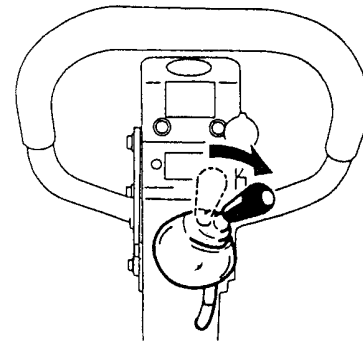

Figure 11. Throttle Lever (Stop)
2. Turn the **throttle lever** to the **STOP** position (Figure 11) to stop the engine.
1. Move the throttle lever quickly to the **STOP** position (Figure 11).